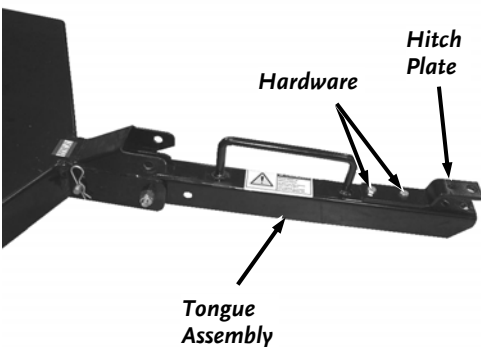

Figure 9
1. Position the Hitch Plate onto the Tongue Assembly as shown and secure with two 5/16-18 x 1" Bolts and Nylon Locknuts (**Figure 9**).